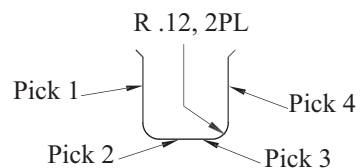

Figure 19 Selection Points for the .12 Radius Fillets
46. **Pick each vertical and horizontal line as shown in Figure 19, and press Enter after all four picks to accept the fillets.**